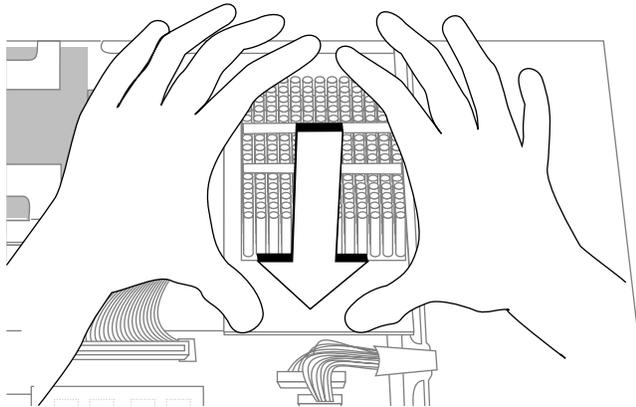

Figure 1-42 Installing the CPU Module
4. Install the new CPU module, as shown in Figure 1-42.